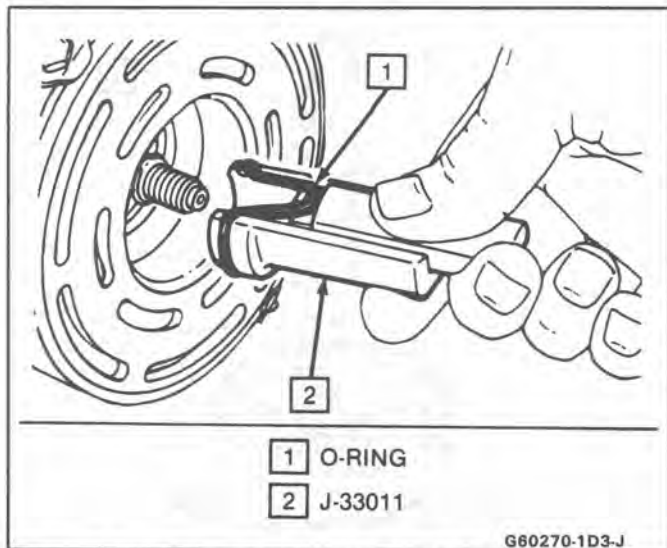

Fig. 27 Installing Shaft Seal Seat O-Ring
1. Dip the new seal O-ring in clean 525 viscosity refrigerant oil and assemble onto O-ring installer J-33011 (Fig. 27).